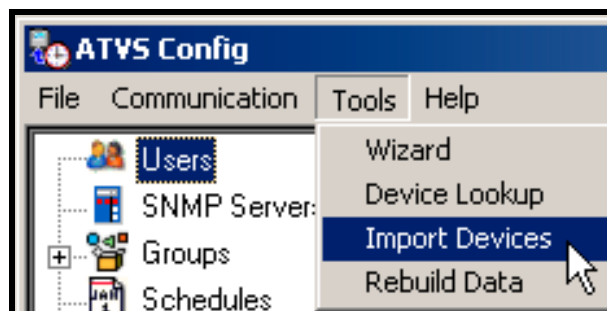

Figure 6-2: Import Devices
- Step 1.** Start the ATVS software and login with your ATVS Username and Password (different than the clock login!). From the main ATVS Config screen, click on the **Tools** menu, and select the **Import Devices** sub-menu (see *Figure 6-2*) to launch the Import Devices screen. This is the easiest and most direct method for finding and importing TS-3000i clocks into ATVS.